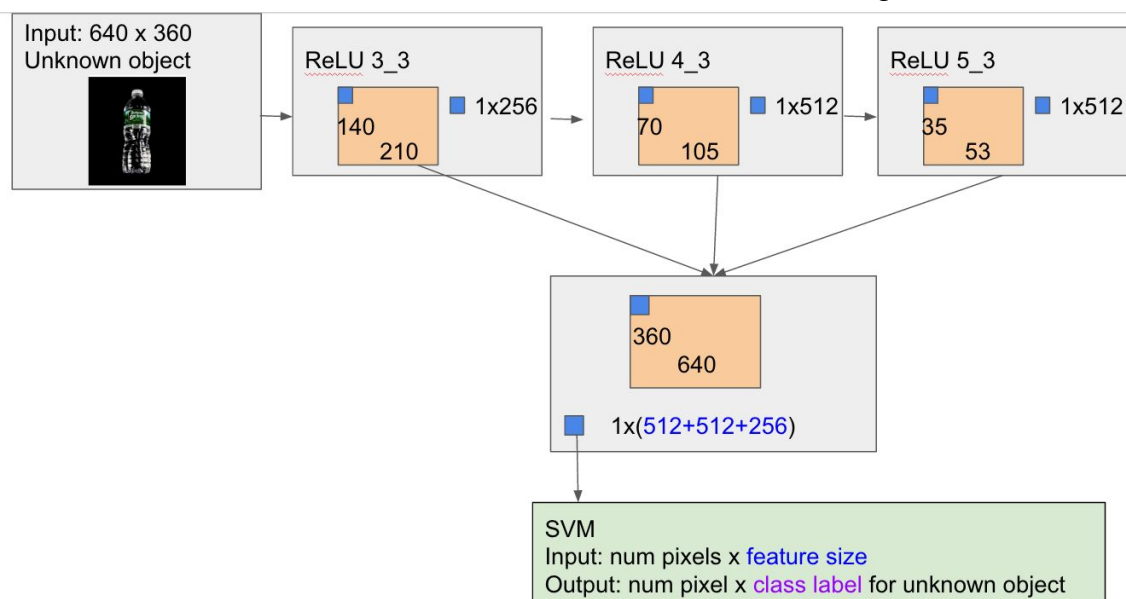

Figure 4. Process to extract feature vector for SVM training
I looked into the FCN architecture to find features that we can extract for SVM training. The architecture is shown in Figure 4. After we receive the input image of unknown items 30 min before competition, the images would be passed through FCN. At 3 stages inside FCN, feature vector for each pixel can be extracted at each stage and concatenated to one. Then the SVM can learn each class using feature vectors.